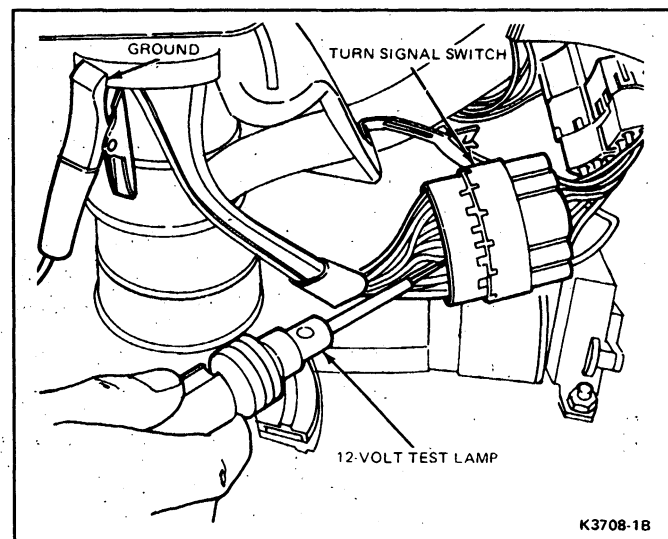

FIG. 12 Hazard Warning Flasher Switch In Turn Signal Switch Assembly Power Test
1. Connect a 12-volt test lamp to a good ground (Fig. 12).
2. Contact probe of test lamp to the wire connection at the turn signal switch (white wire with red stripe—Circuit No. 385) as shown in Fig. 12.